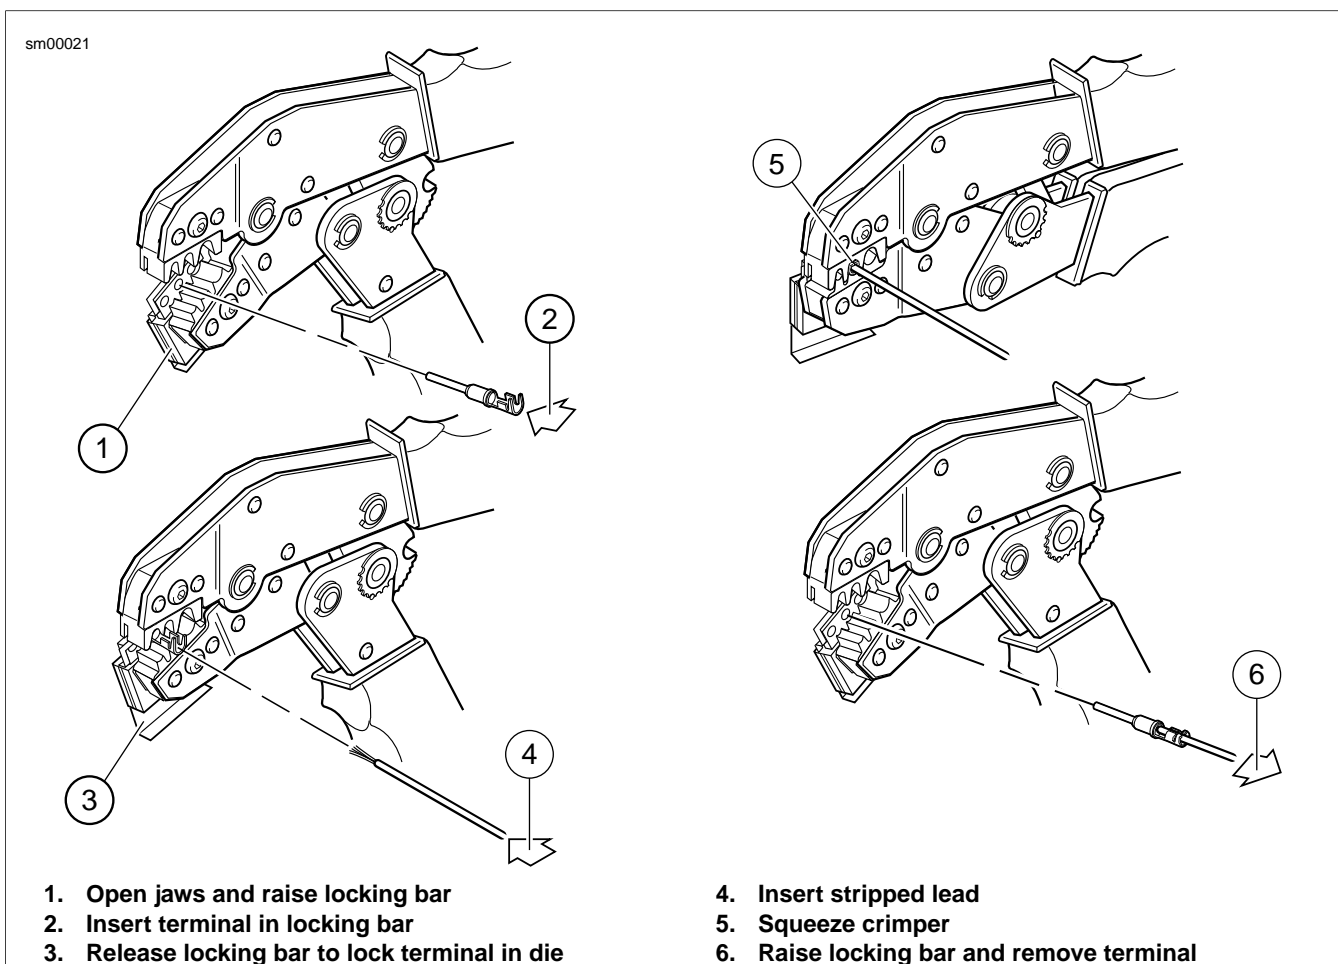

Figure A-16. Crimping a Deutsch Standard Terminal
1. See Figure A-16. Squeeze the handles of the DEUTSCH TERMINAL CRIMP TOOL (Part No. HD-39965-A) to open the jaws. Push the locking bar (1) up.
2. Insert (2) terminal (socket/pin) through hole of the locking bar, so that the rounded side of the contact barrel rests in the nest (concave split level area) with the crimp tails facing upward. To match the wire gauge to the crimp tool die, refer to Table A-3.